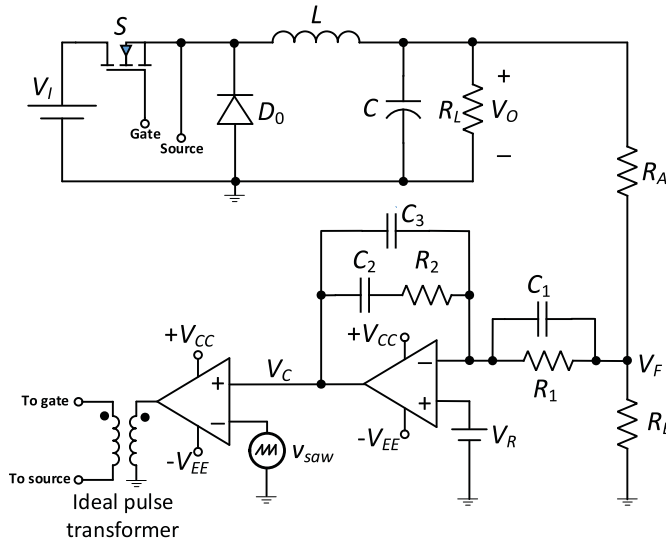

Figure 43.1 Circuit diagram of the voltage-mode controlled dc–dc buck converter with integral-single-lead control.
1. Construct the circuit of the closed-loop buck dc–dc converter as shown in Figure 43.1 on the circuit simulator. Enter the values of all the components present in the feedback, controller, pulse-width modulator, and the buck converter stages.